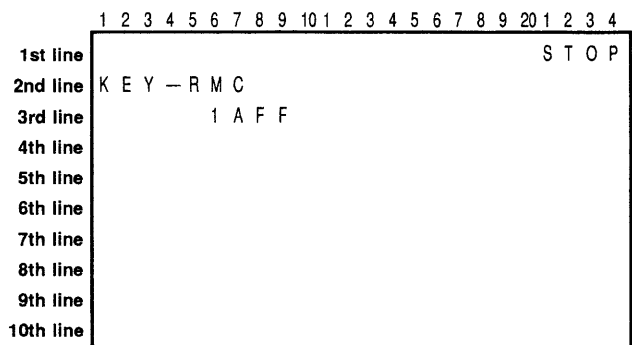

Fig. 7-7. Key and remote control data
The one byte (2 digits in hexadecimal notation) on the left of the 3rd line in figure 7-7 is the SIRCS code of the key input data of the main unit, and that on the right is the SIRCS code of the input data by the remote control unit. When no key is pressed or there is no input, “FF” appears. When two keys are pressed almost at the same time, the SIRCS code of the input data by the first pressed key will appear.
An example in figure 7-7 shows that the playback key (1A in hexadecimal notation) on the main unit is pressed but there is no input (FF in hexadecimal notation) from the remote control unit.